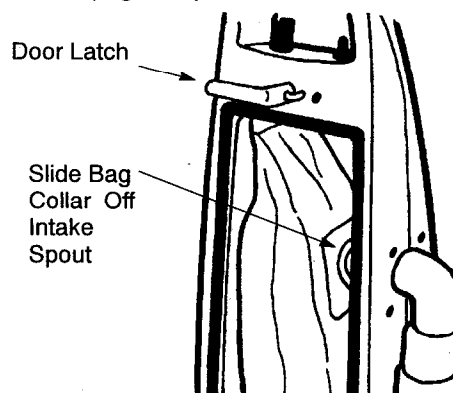

FIG. 6
1. Open rear door by turning door latch/upper cord hook 90° (*Figure 6*).